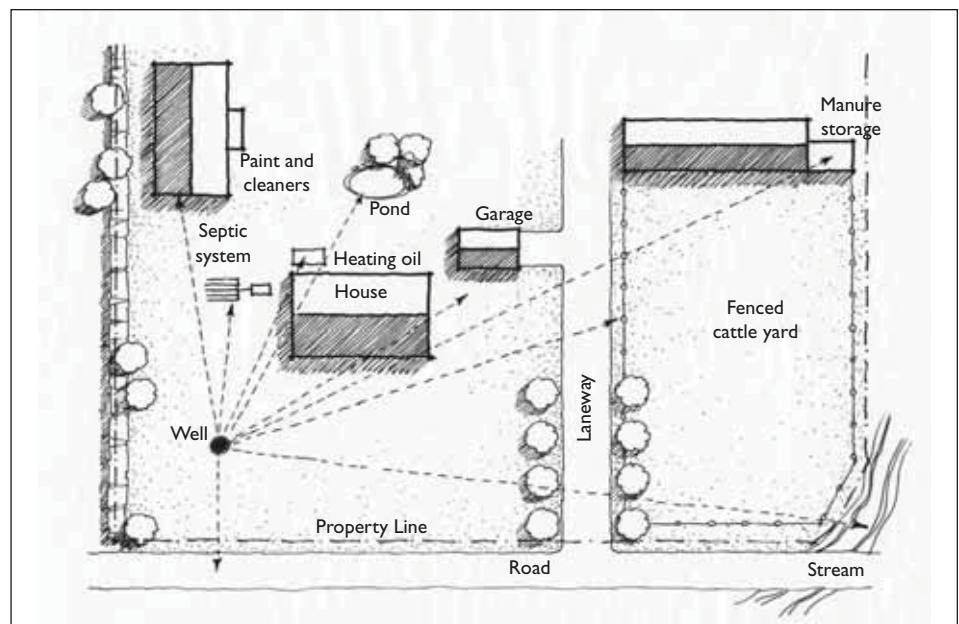

Figure 3: Well Separation Distances
- ☐ Location – (Figure 3) A well should be located at least 15 m (50 ft.) from any source of contamination if the casing is watertight to a depth of 6 m